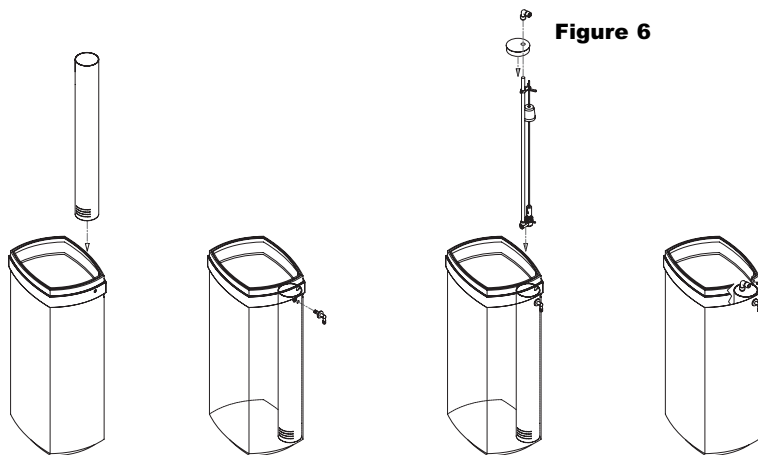

Figure 6
- Insert the brine well into the brine tank (see figure 6).
- Attach the brine well to the brine tank with the overflow elbow (see figure 6).
- Insert the safety float into the brine well. The top of the safety float should be about 5 inches from the overflow elbow (see figure 6).